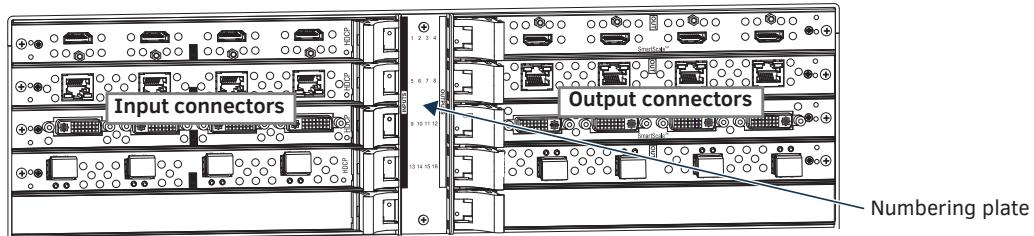

FIG. 20 Numbers on numbering plate indicate input and output board channels (Enova DGX 1600 shown)
- **Enova DGX 1600** – Enclosures have 8 horizontal board slots (4 slots each for the input and the output boards, with 4 connectors per board), allowing for a maximum configuration of 16x16 (FIG. 20).